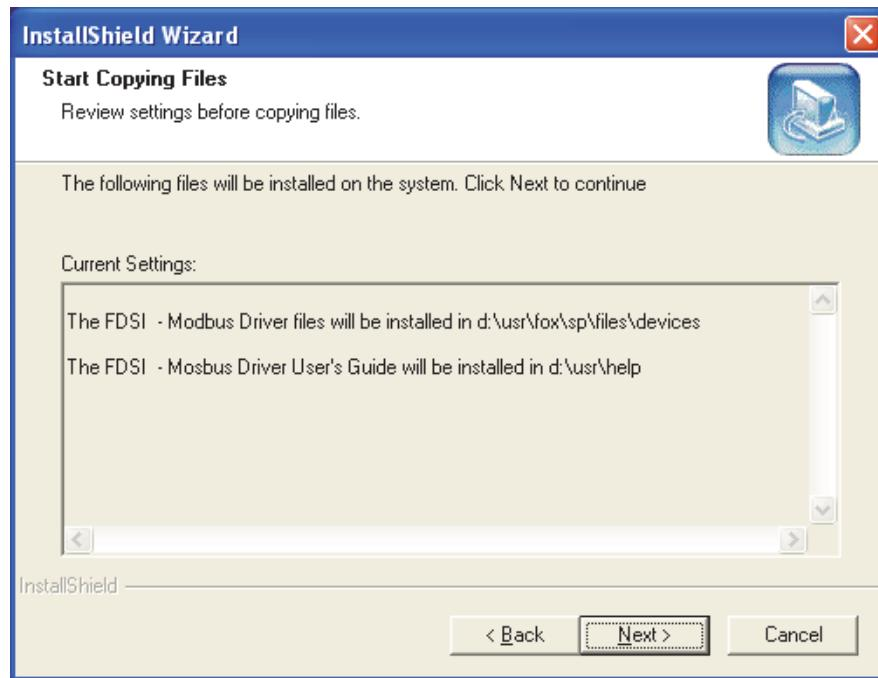

Figure 7-3. Start Copying Files Display for FDSI Driver
3. Click **Next** to start the installation procedure. A dialog box similar to Figure 7-3 appears on your screen.